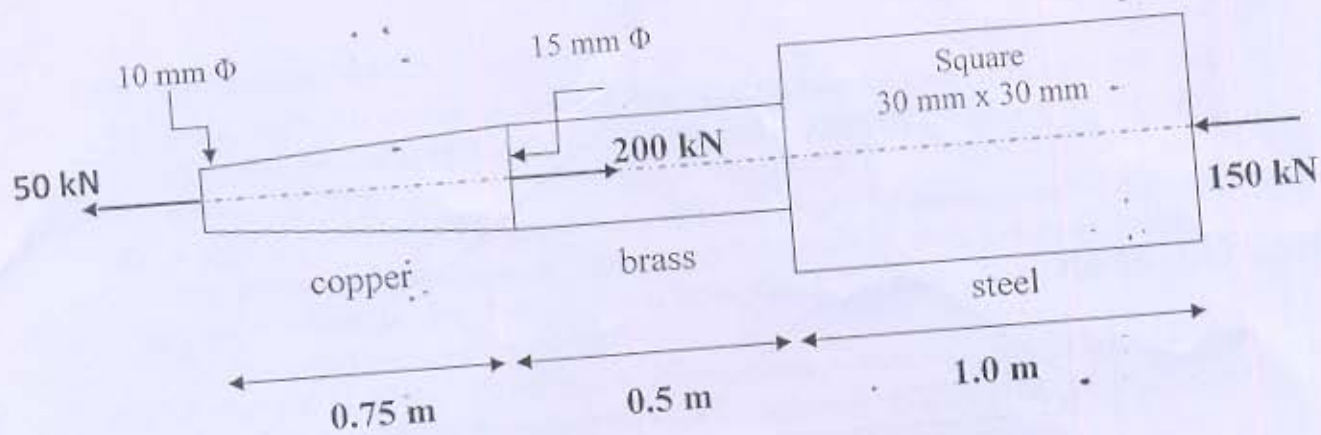

Fig. 4
- (i) A stepped bar is loaded as shown in Fig. 4. Calculate the stresses in each part and total change in the length of the bar. Take $E_{\text{steel}} = 200 \text{ GPa}$, $E_{\text{copper}} = 100 \text{ GPa}$ and $E_{\text{brass}} = 80 \text{ GPa}$.